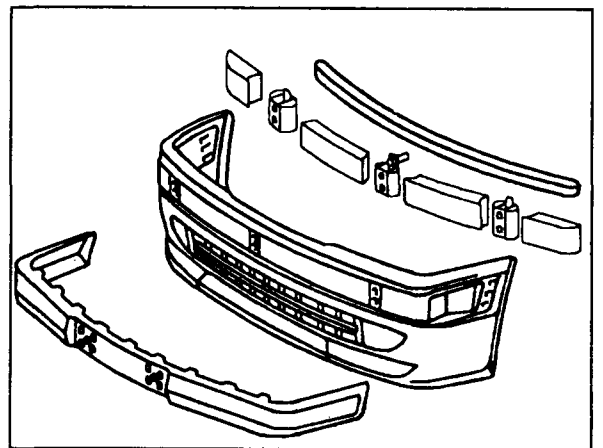

Figure 7
10. Position rub strip and foam inserts (Figure 7) on air dam/bumper cover and press retaining tabs into slots. Install 3 Phillips head screws into left and right ends of bumper.
11. Slide reinforcement beam (Figure 7) supplied between original impact absorber sections and upper edge of air dam/bumper cover.